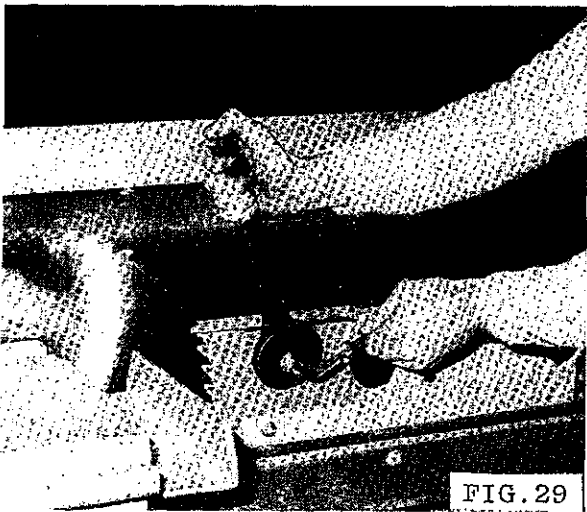

FIG. 29
- 3 Locate 8mm allen key (supplied) in scoring saw spindle as shown in FIG.29 and remove scoring saw nut (right hand thread) with 32mm A/F spanner (supplied).